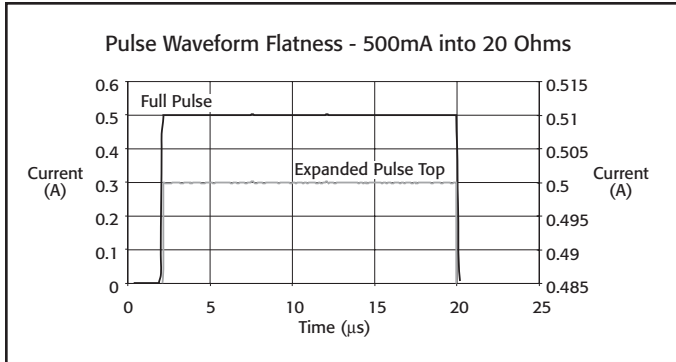

Figure 1
The mainframe and remote test head architecture of the Model 2520 is designed to enhance pulsed measurement accuracy, even at the sub-microsecond level. The remote test head ensures the measurement circuitry is located near the DUT, mounted on the fixture, minimizing cable effects. As the schematic in **Figure 1** shows, traditional semi-custom systems typically employed in the past require significant integration. The architecture of the Model 2520 (**Figure 2**) offers a far more compact and ready-to-use solution.
Figure 1. This schematic reflects the current testing practices of major laser diode manufacturers. Note that the use of discrete test components increases the integration and programming effort, while severely limiting the flexibility of the test system.
7. Figures 1 and 2 are typical pulse outputs into resistive loads.